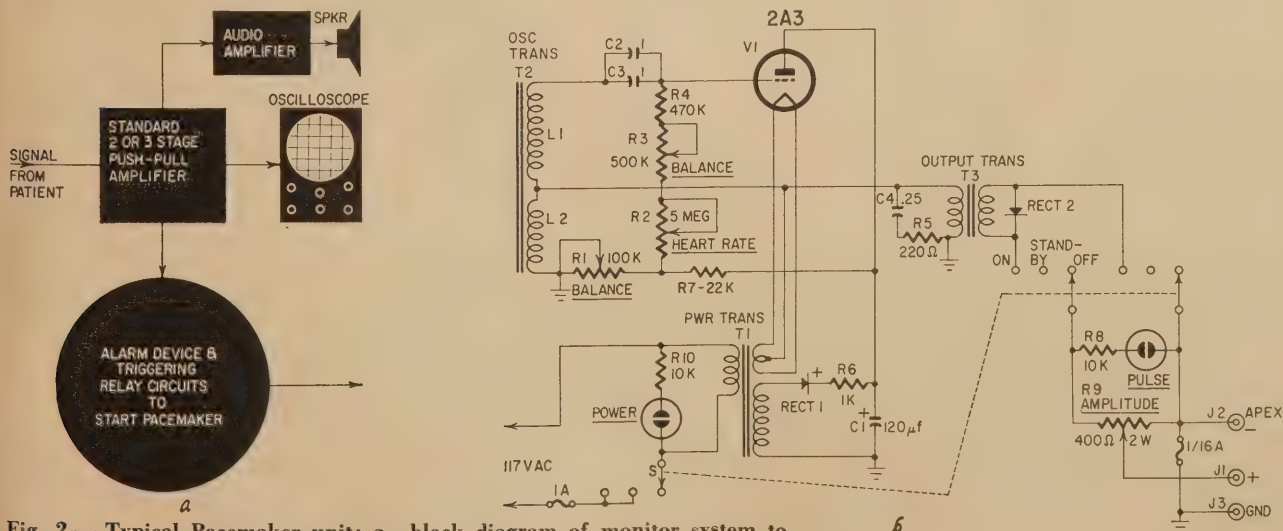

Fig. 2—Typical Pacemaker unit: a—block diagram of monitor system to start the Pacemaker automatically when it is needed; b—schematic diagram.
Fig. 2 is a typical example of Pacemaker circuitry. Power to the instrument is controlled by an ON-OFF-STANDBY switch (S) located on the front panel. In STANDBY, all circuits are activated with the exception of the pulse output jacks to the patient's electrodes. These are energized in the ON position. With the switch in ON or STANDBY, the POWER INDICATOR glows. The PULSE INDICATOR is excited only in the ON position and only when a pulse occurs. This makes the lamp flicker once for each pulse. A typical power supply consists of a transformer and